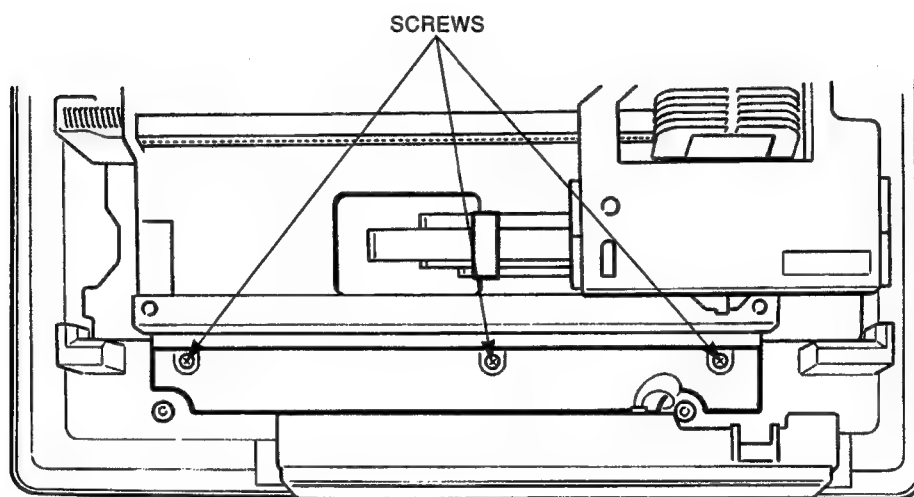

Figure 3-67 Cable Cover
1. Remove the cable cover by removing the three screws securing it to the shield cover (see Figure 3-67).